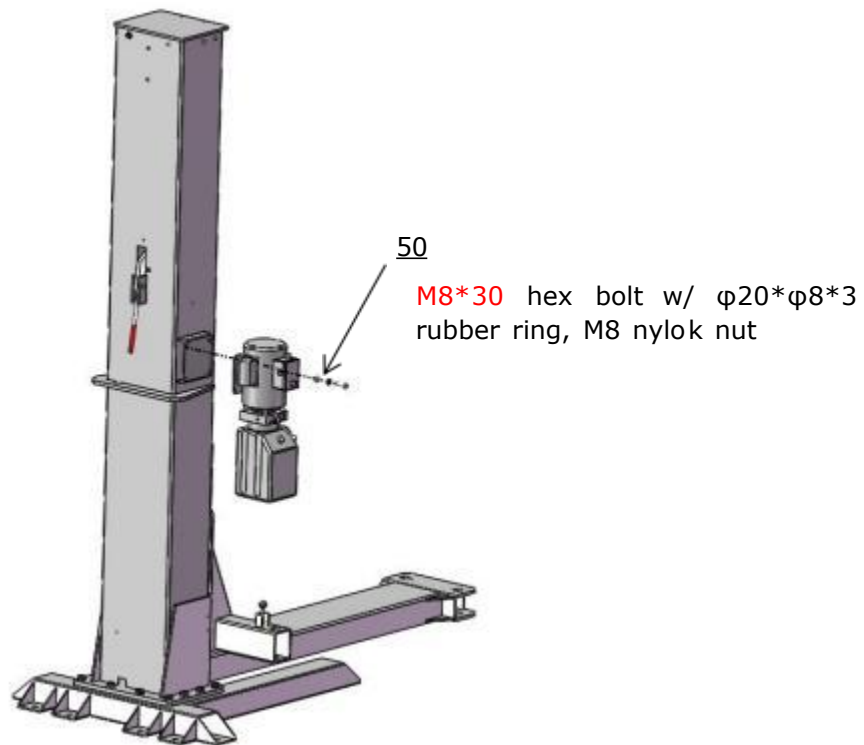

Fig.17
1. Install power unit. (See Fig.17)